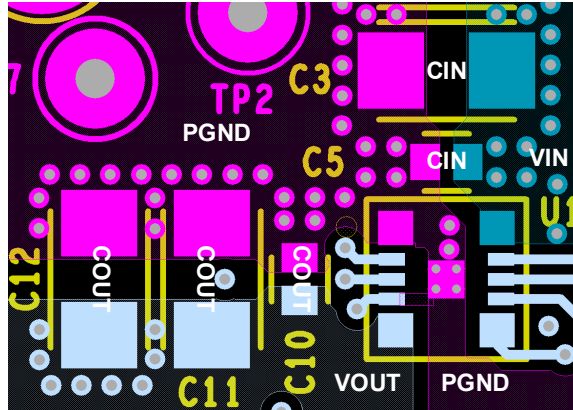
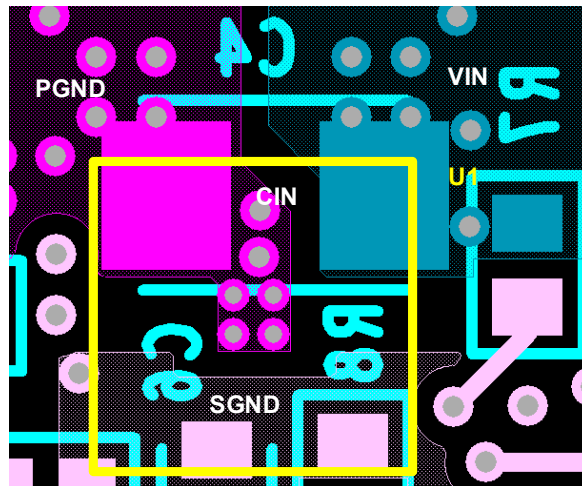

Figure 36. Layout Example - Top Layer
Figure 37. Layout Example - Bottom Layer
- Place the input ceramic capacitors as close as possible to the module input. These ceramic capacitors minimize the high frequency noise by reducing the parasitic inductance of the power loop. Proper placement of these capacitors not only leads to less PHASE node spikes and ringing, but also minimizes the switching noise coupled to the module. Renesas recommends using dielectric X7R or equivalent with a minimum total capacitance of 44 μF at the module input. A layout example is shown in Figure 36 and Figure 37.